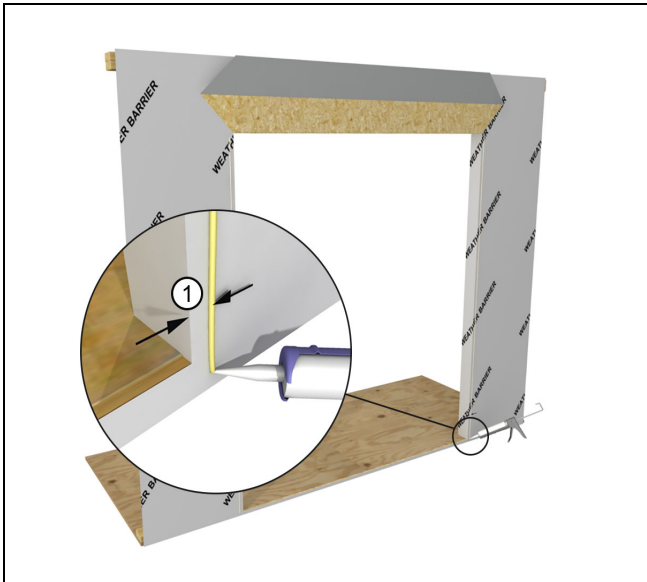

Figure 10
1. After the rough opening has been prepped (using either the air barrier or building paper methods), apply a continuous bead of sealant 3/4" (19) from the top and sides of the door opening. See Figure 10.